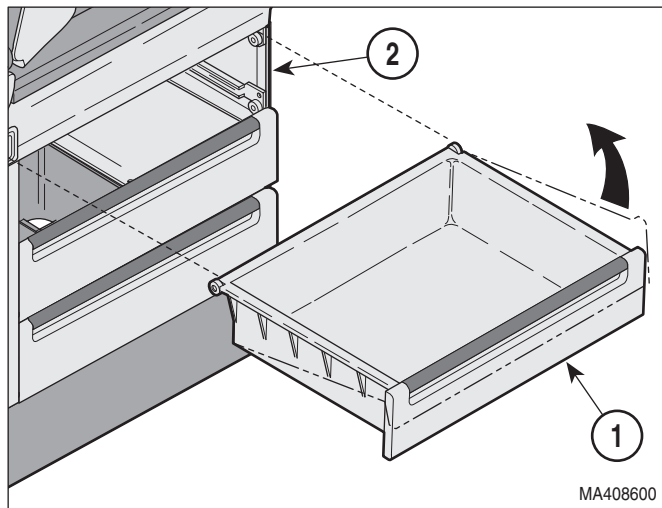

Figure 4-2. Drawer Removal / Installation
- (1) Pull drawer out to full extension
- (2) Lift front edge of drawer to slight upward angle (1, Figure 4-2). and pull drawer from table.